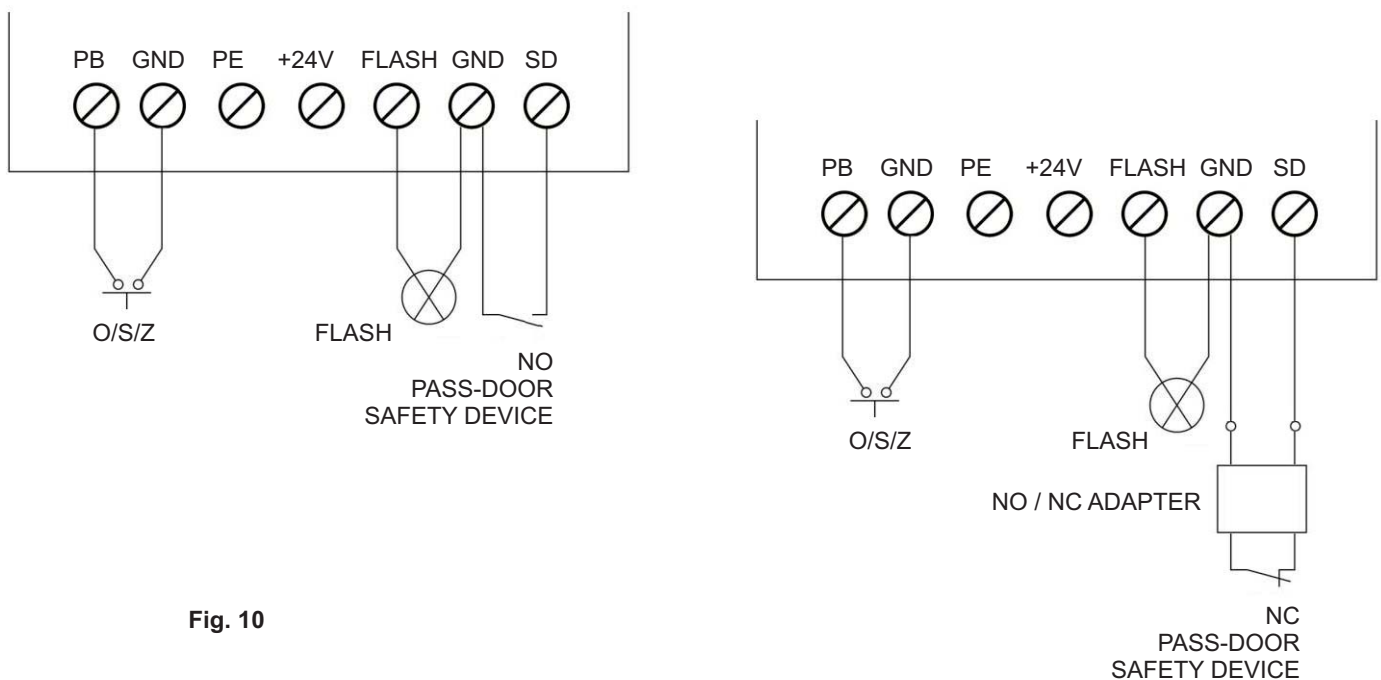

Fig. 10
The O/S/C facility can be used for an external push button switch to operate the opener. The switch must have voltage free normally open contacts (Fig. 10).
SWITCH CONTROL CONNECTION (OPTIONAL) – Fig. 10
1. The O/S/C interfaces available (Fig. 10)
2. Flash light function (Fig. 10)
3. Pass door (SD) protection (Fig. 10)